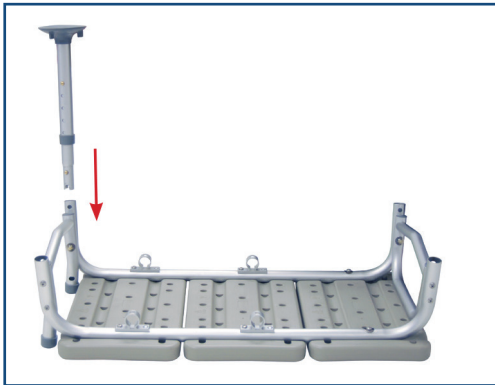

figure 2
5. Attach leg with the large suction cup (marked "A") by depressing the brass push pin and inserting into the receptacle with the matching "A". Repeat for second leg (Figure 2).